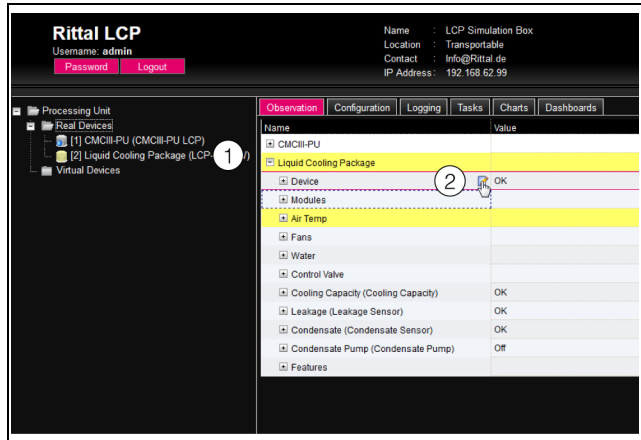

Fig. 112: Selecting multiple parameters
- Simply open the "Liquid Cooling Package" entry by clicking on the "plus" symbol in front of that entry (fig. 112, item 1).
- Position the mouse pointer at the end of the first column in the "Location" line (fig. 112, item 2). An "Edit" symbol will appear, and the mouse pointer will change to a "Hand" symbol.